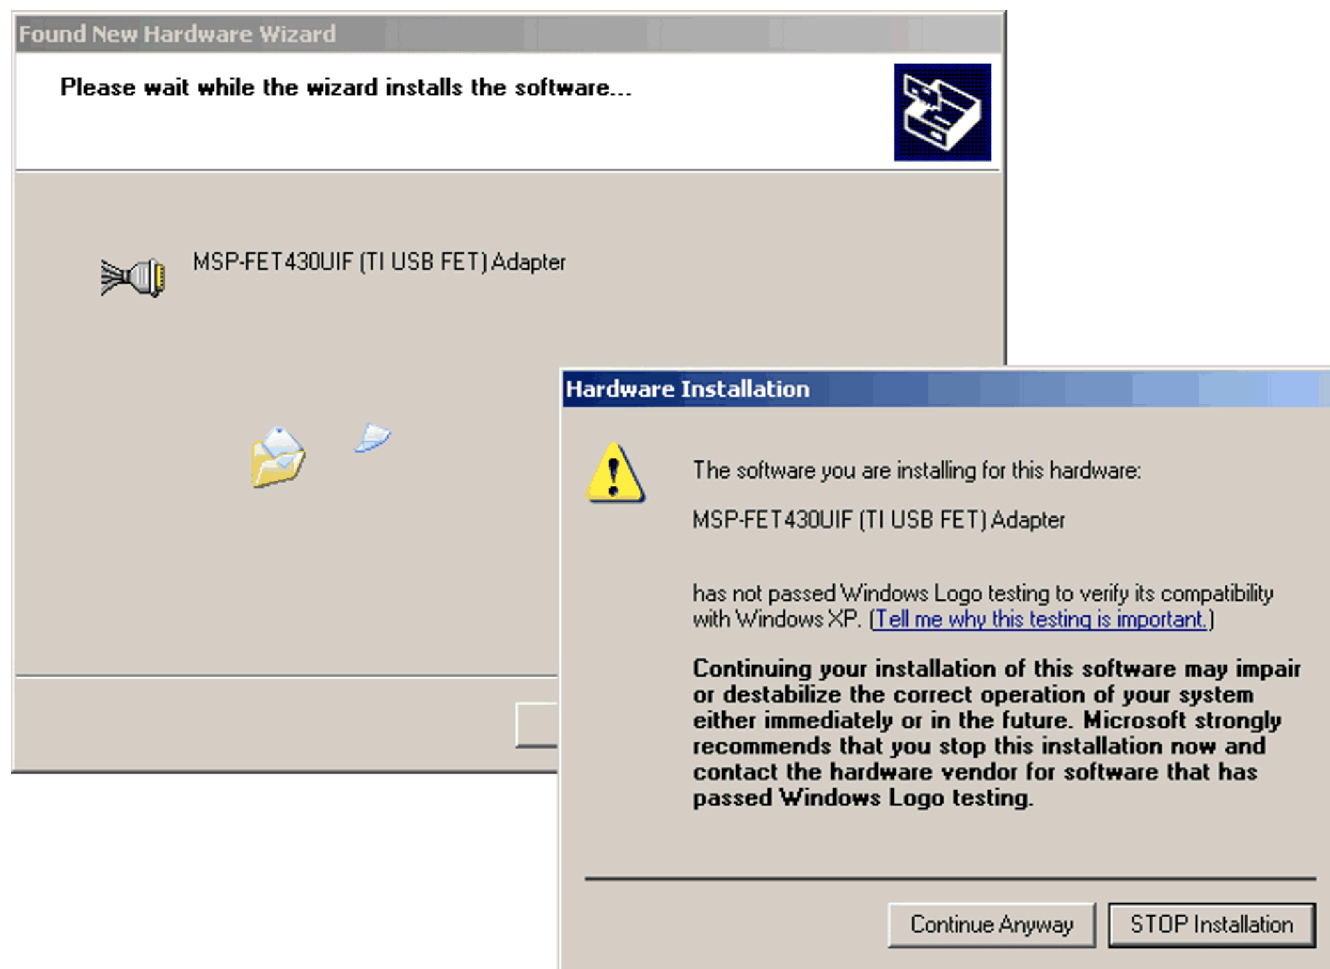

Figure E-4. Windows XP Driver Installation
8. Note that Windows XP shows a warning that the driver is not certified by Microsoft®. Ignore this warning and click "Continue Anyway" (see Figure E-4).